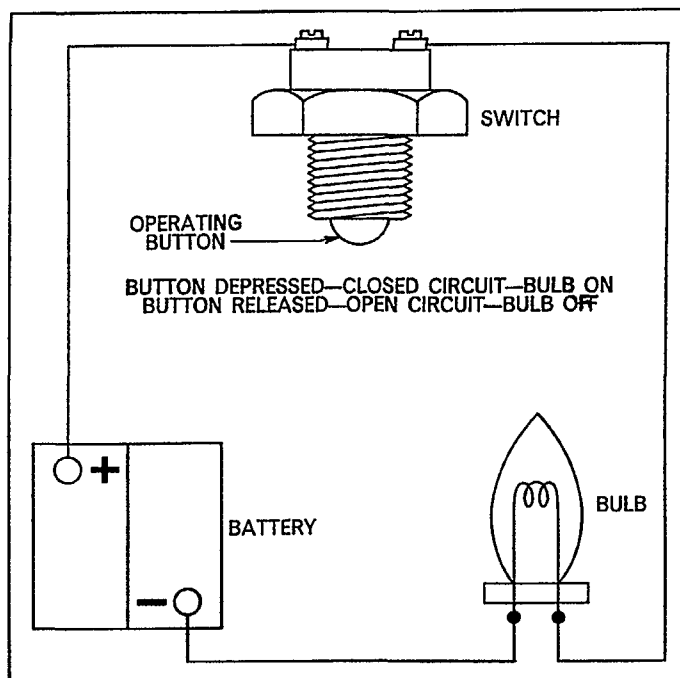

Figure 56
1. Using a suitable test bulb, wires, and battery, Figure 56, test the starter safety switch for correct operation by depressing the operating ball, which should close the circuit and light the test bulb. On releasing the operating ball, the test bulb should be extinguished. If the switch is faulty, a new part should be installed.